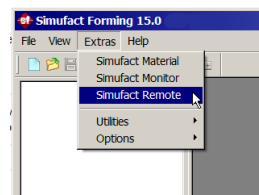

Figure 2.1. Opening the remote manager in Simufact Forming
5. On the server, start Simufact Forming as Administrator and open the Simufact Remote Manager (see Figure 2.1).
4. Start Simufact Forming and open the remote manager (Figure 2.1).